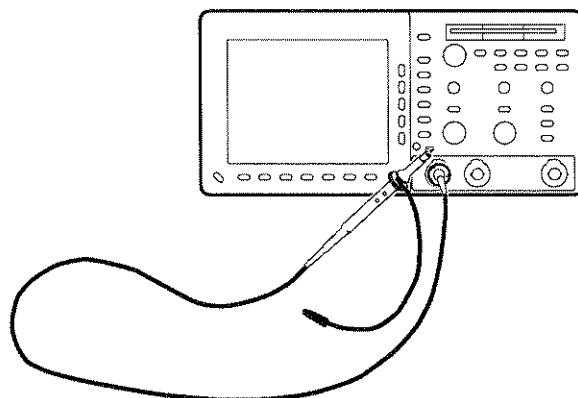

Figure 1-4: Hookup for functional test
1. Install the probe on CH 1. Connect the probe tip to PROBE COMP on the front panel; leave the probe ground unconnected. (See Figure 1-4.)